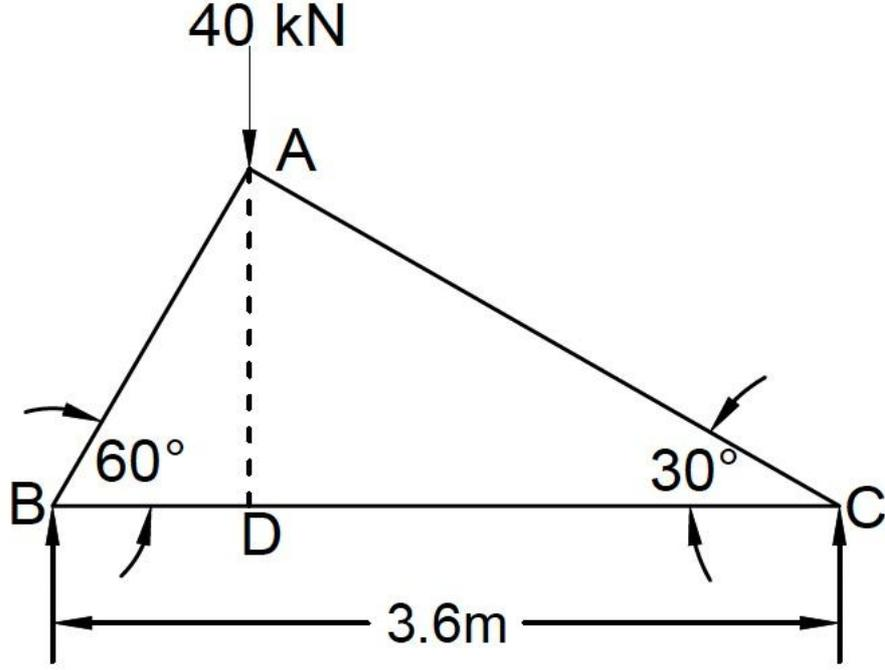

Figure No. 5
- (c) Find forces in all members of a truss as shown in figure no.5 by method of joint. 07